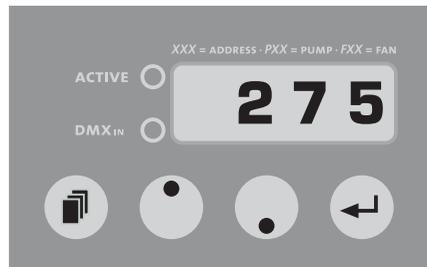

Fig. 3: Display shown at adjusting the DMX start address
- a) Press the Mode button [14] at the control panel until three figures will appear on the LED display [17] (see Fig. 3).